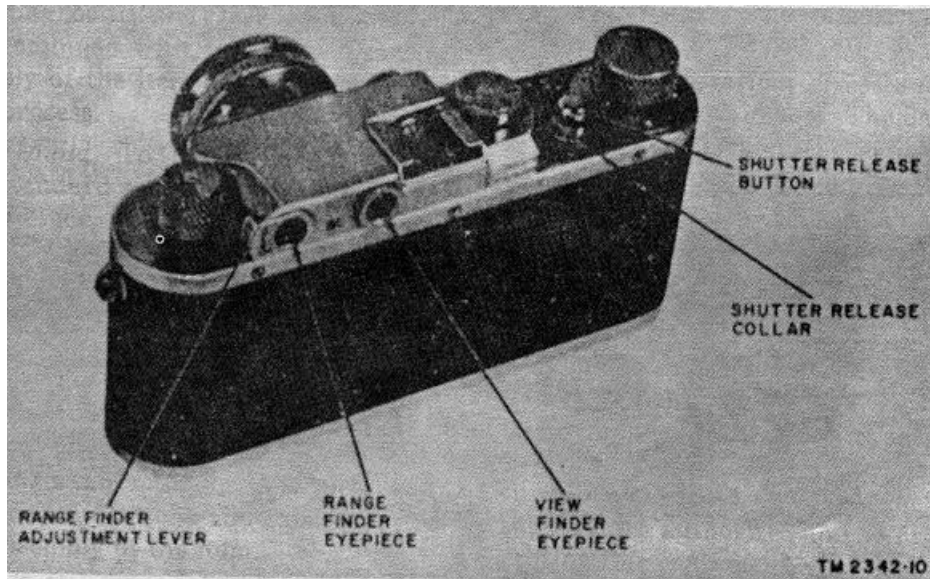

Figure 10. Camera Equipment AN/GFQ-2, camera component, rear view.
turn it in a clockwise direction (direction of arrow). At the same time, observe the shutter release button (KS-15 (1)) or shutter release collar (AN/GFQ-2) (fig. 10). The shutter release button or the shutter release collar should turn and continue to turn until all of the film is rewound and the film leader leaves the takeup spool.